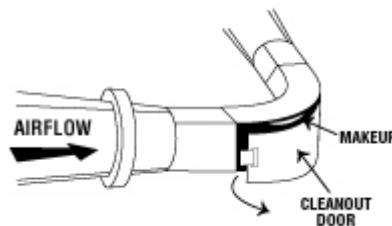

Figure 3
**Particulate traps, settling chambers, or "cleanouts" are not present or used:** Frequent cleaning of specific points in the duct network (those that plug first) can reduce the need for a major system cleaning. By monitoring the most common trouble spots, the effort needed to maintain the ducts is minimized. At locations of rapid or frequent plugging, cleanout or access doors make cleaning much easier. See Figure 3.